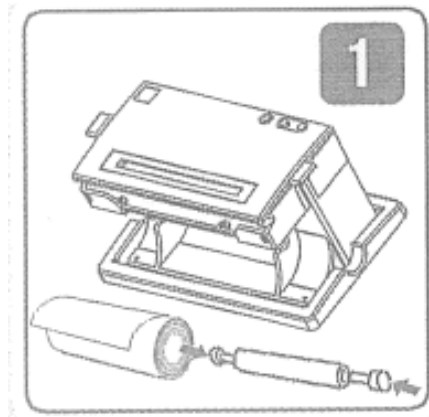

Figure 85
- A. Turn off power, pull out of the printer and remove the paper-roller as show in Figure 85